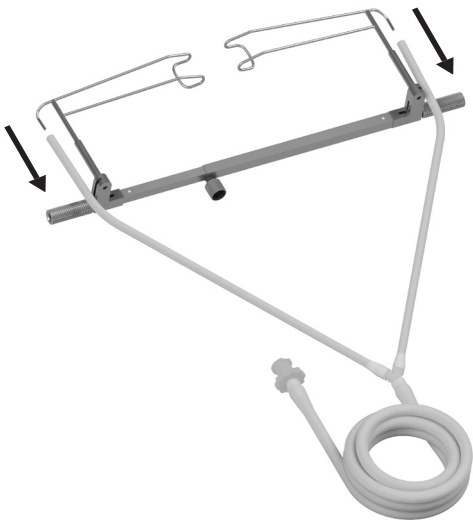

Fig. 2
- Remove the tubing system according to fig. 2.
- Remove the tubing system according to fig. 2 and reprocess it according to its product-related reprocessing instructions (1102227).